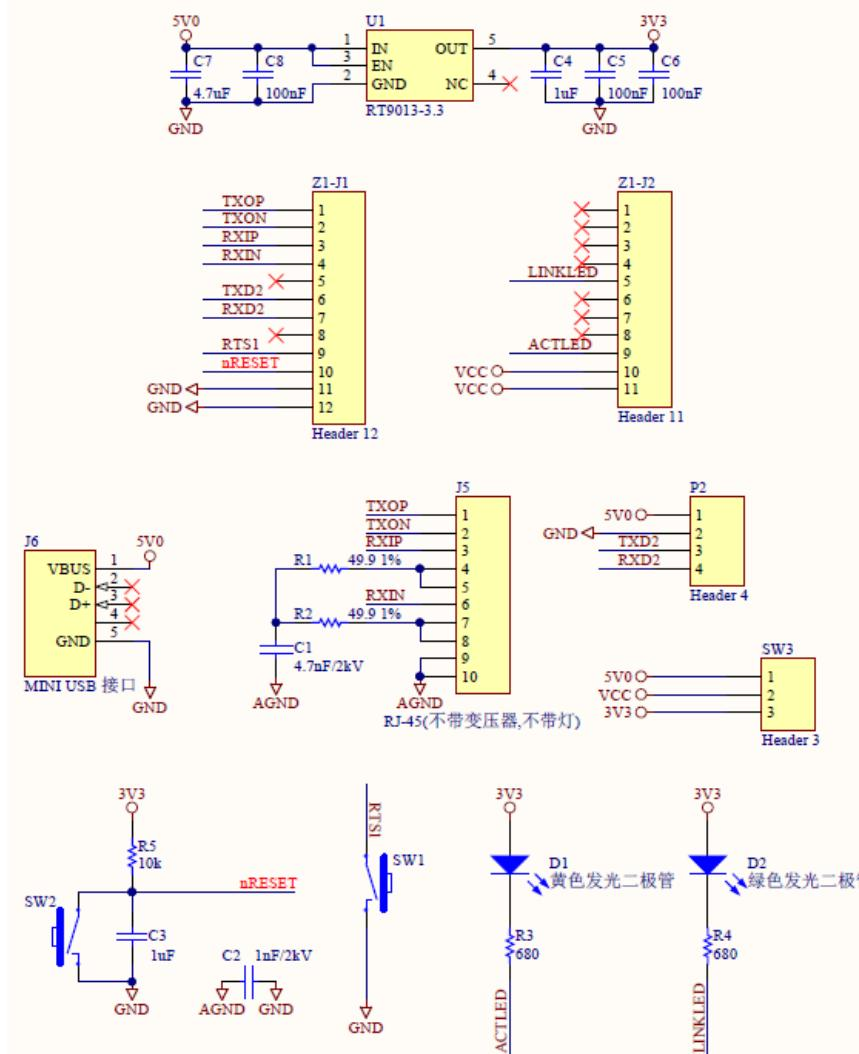

Figure 2-4 W7500S2E-Z1 evaluation board reference schematic
- ♦ Figure 2-4 shows the reference schematic of the evaluation board for developing reference.